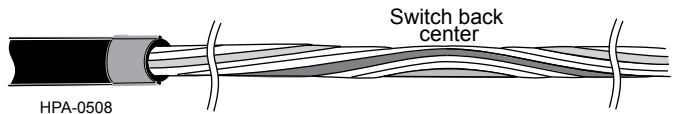

Figure 18
Step 7: Locate the switch back center where the direction of the buffer tubes' wrap around the central member switches to the opposite direction (Figure 18).